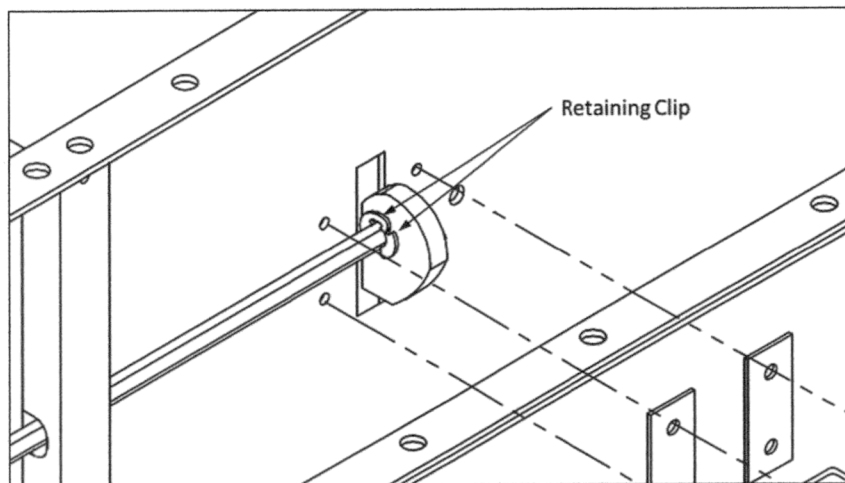

Figure B-2 Cam Assembly Detail
- 2) Slide hex shaft into cam lobe and install retaining clip on each side of cam lobe See Figure B-2
- 4) Bolt position brackets in place using (4) ¼-20 bolts. Torque to 60 in-lbs.